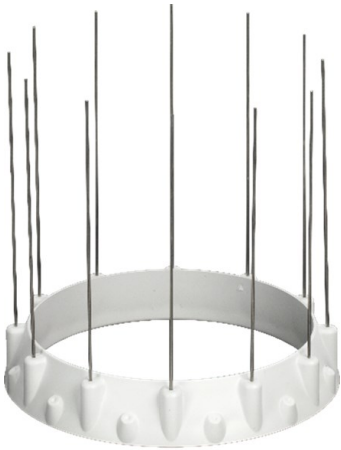

Figure 7-5. Spikes inserted into the plastic ring slots
- Repeat steps 2 and 3 for all bird spikes (Figure 7-5 [p. 18]).